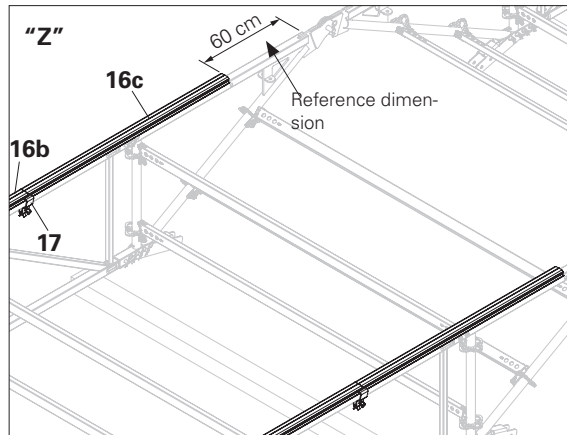

Fig. A2.03a
5. Check the reference dimension of 60 cm. (Fig. A2.03a)